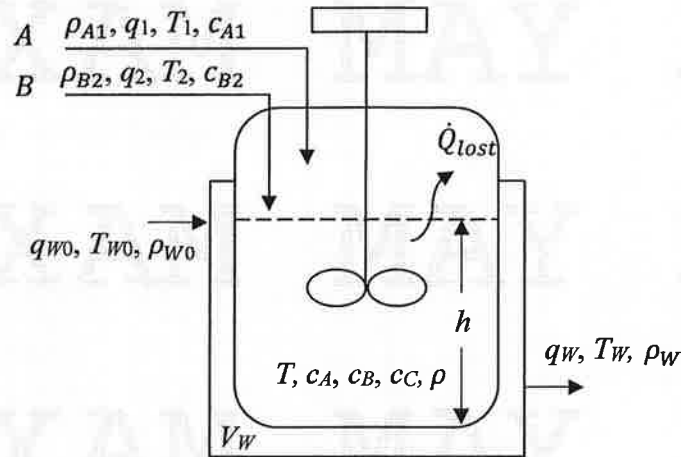

FIGURE Q2 A stirred tank reactor under semi-batch operation
2. Consider a stirred tank reactor under semi-batch operation with volumetric liquid holdup, V (m^3), and liquid height, h (m) that are changing with time as shown in **FIGURE Q2**. Cross sectional area of the reactor is given by A_c (m^2).